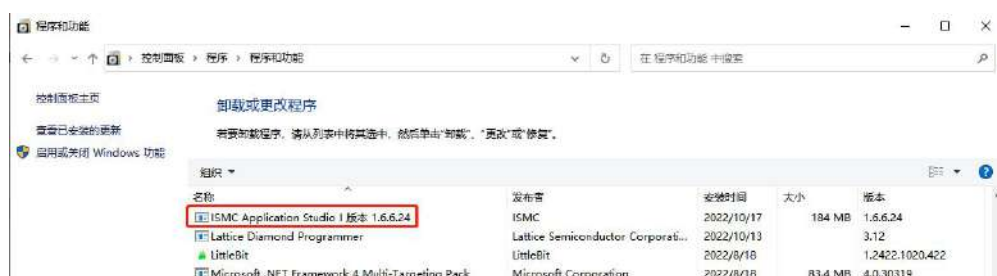

Figure 1-7 Open the program management interface
- ① Open the program management interface through "My Computer" "Control Panel" "Programs" "Programs and Features", as shown in Figure 1-7.